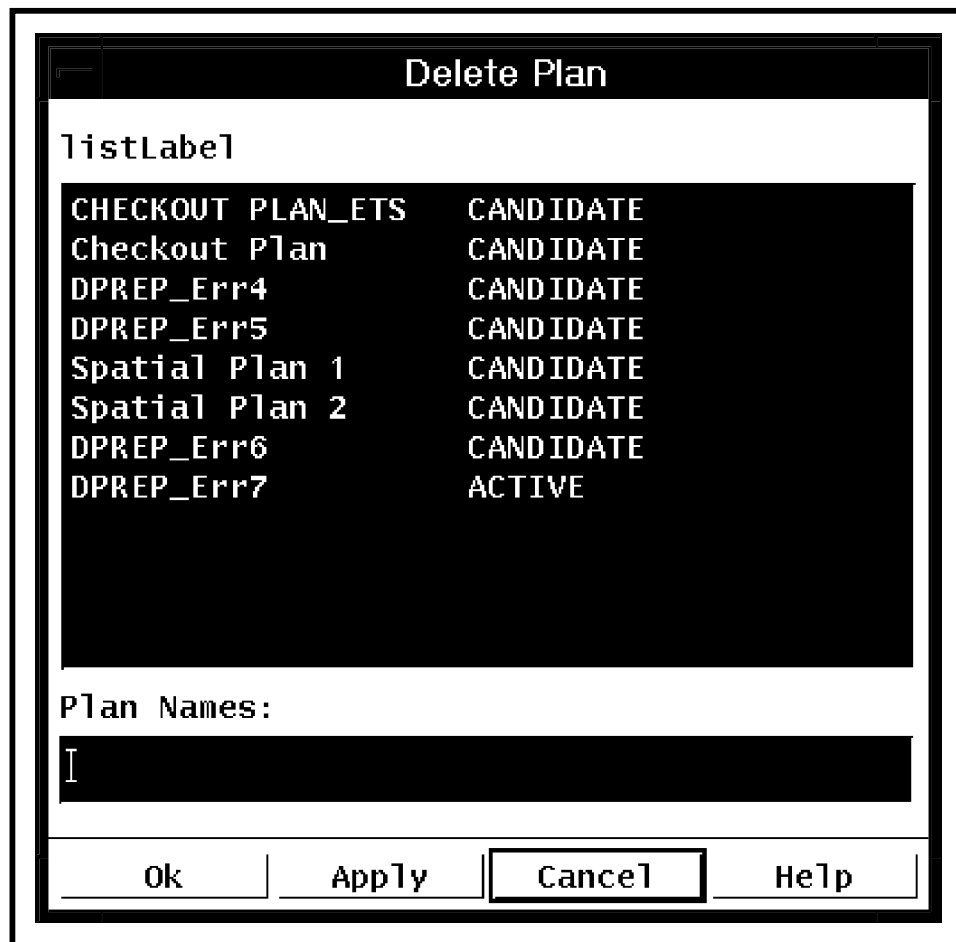

Figure 47. Delete Plan Window
- The **Delete Plan** window (Figure 47) is displayed.